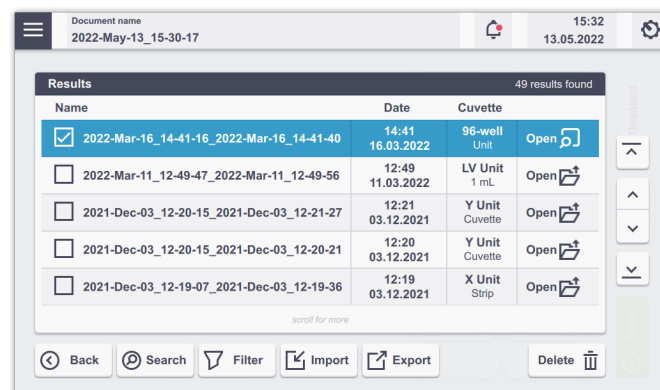

Figure 2.50: (A) To import experiments go to “Experiments” and (B) select “Import” to transfer pre-defined experiments to the 4D-Nucleofector® System.
- Go to “Experiments” via the accordion menu (Figure 2.50) and select and import the required experiment. A message “Import completed successfully” will appear to verify that your new experiment is now saved onto the 4D-Nucleofector® System.
- Select the result to be printed (Figure 2.50) and press “Export”